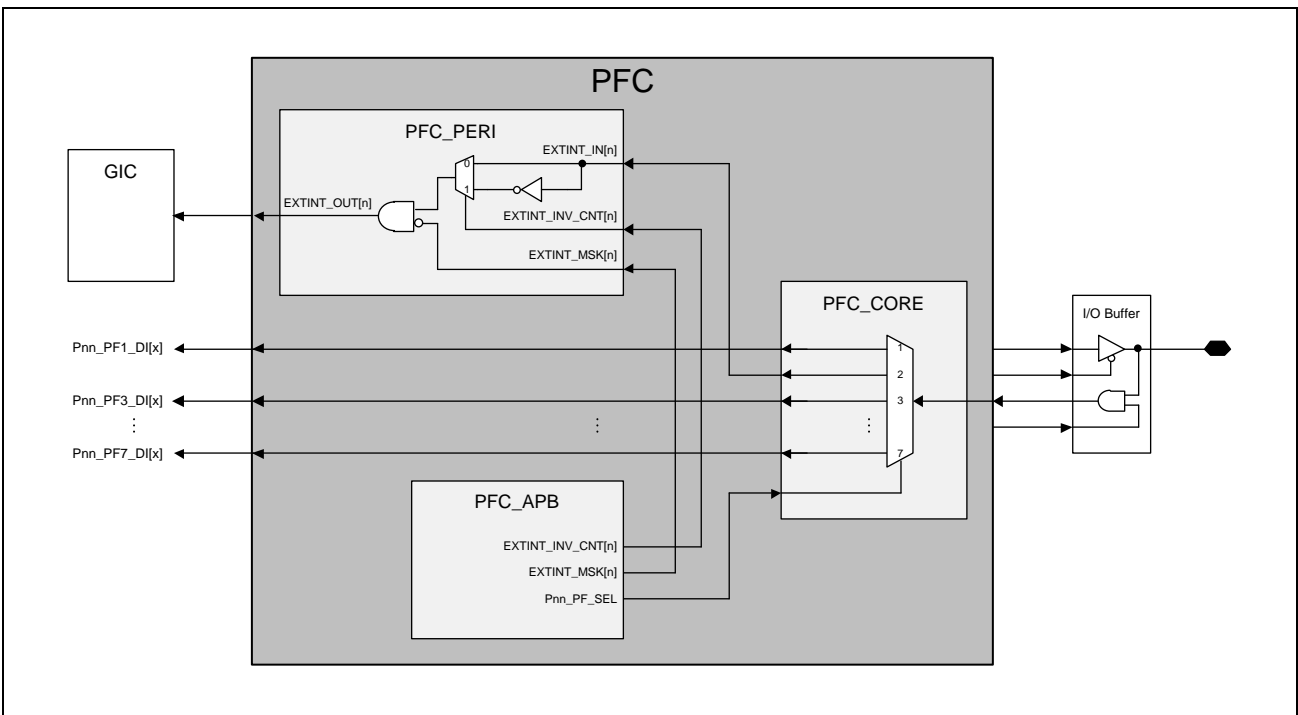

Figure 32.2-2 Internal Configuration of External Interrupt Signal Active Sense Non-Inversion/Inversion Control
**Figure 32.2-2** shows the internal configuration of non-inversion/inversion control for the active sense of the external interrupt signal.